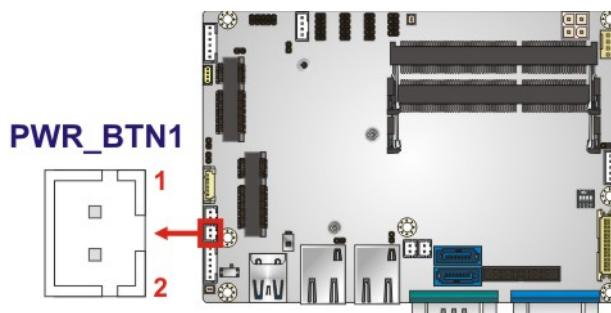

Figure 3-19: Power Button Connector Location
**CN Location:** See Figure 3-19